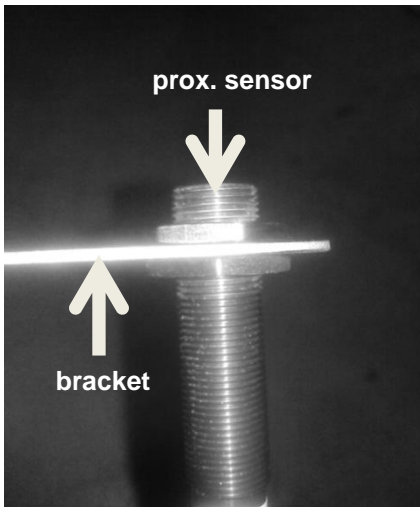

Figure 5: Proximity sensor fasten on bracket
2. The proximity sensor should be loosely fitted to the bracket with 2x M12 nut with 19mm wrench as shown in Figure 5.